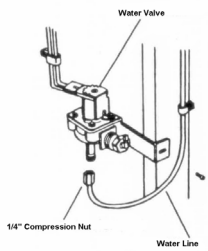

Figure 15
13. Using factory predrilled mounting holes, attach water valve to the frame as shown in Figure 15. **Tip** : If space is limited attach icemaker fill line to valve before installing. You may need to reposition the eliminator tube on models with an internal condenser. Remember, finger tighten the compression fitting, then tighten with wrench an additional 1/4 to 1/2 turn. **DO NOT OVER TIGHTEN**, this will cause leaks and possible property damage.